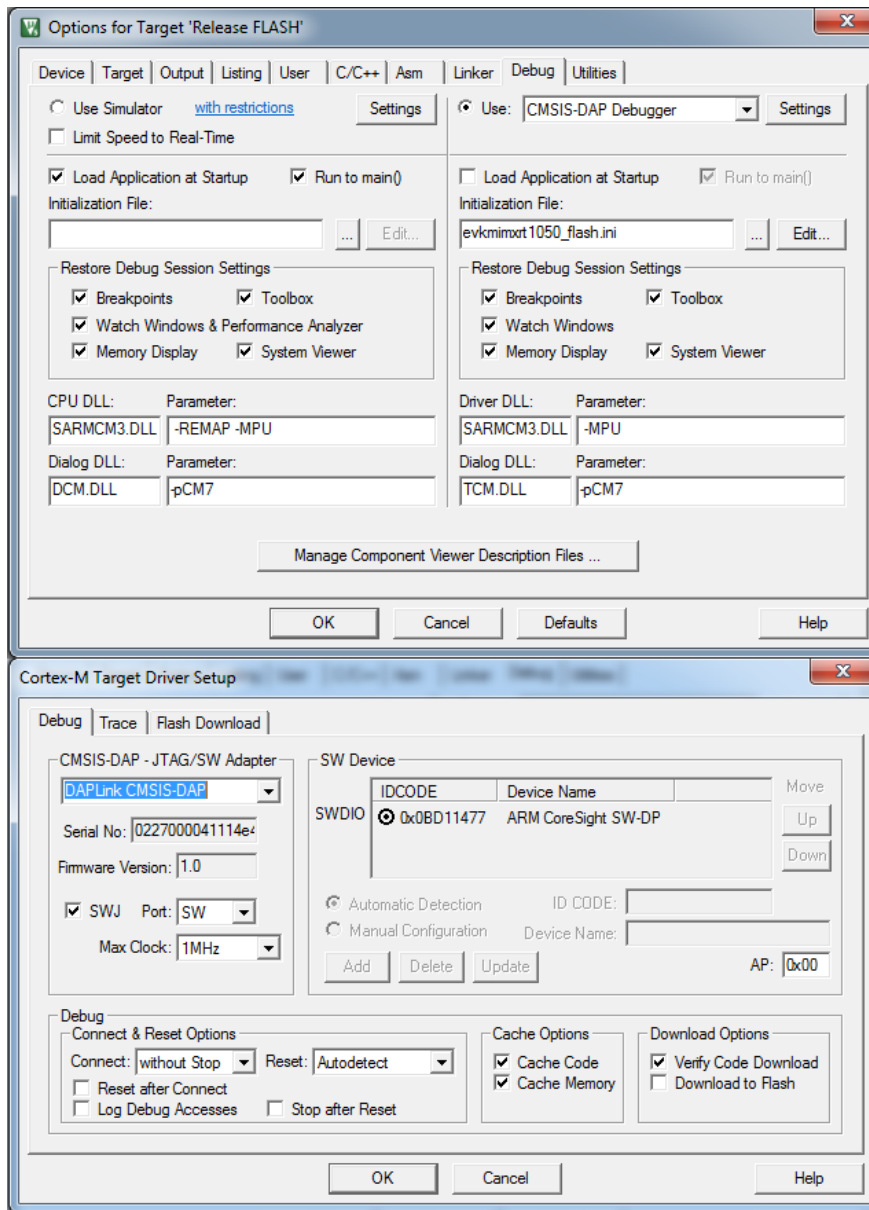

Figure 19. Keil - Release FLASH debugger settings
- Choose CMSIS-DAP as the debugger. Go to “Project->Options For Target->Utilities” tab and uncheck “Update Target before Debugging”. Switch to the “Debug” tab and set the options as follows (Figure 19).
1. Power down the board. Configure the board to the serial download mode. To achieve this, the SW7-4 should pull up and the others should pull down (Figure 19). Then power up the board.